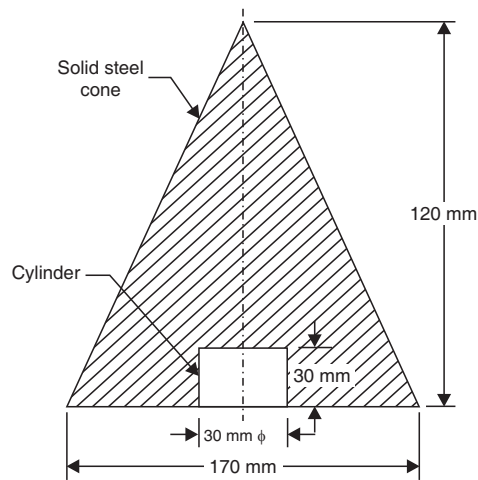

Fig. 4.55
18. A solid steel cone is made lighter by removing a part of the material from it in the form of a cylinder as shown in Fig. 4.55. Determine the position of the c.g. of the remaining metal.